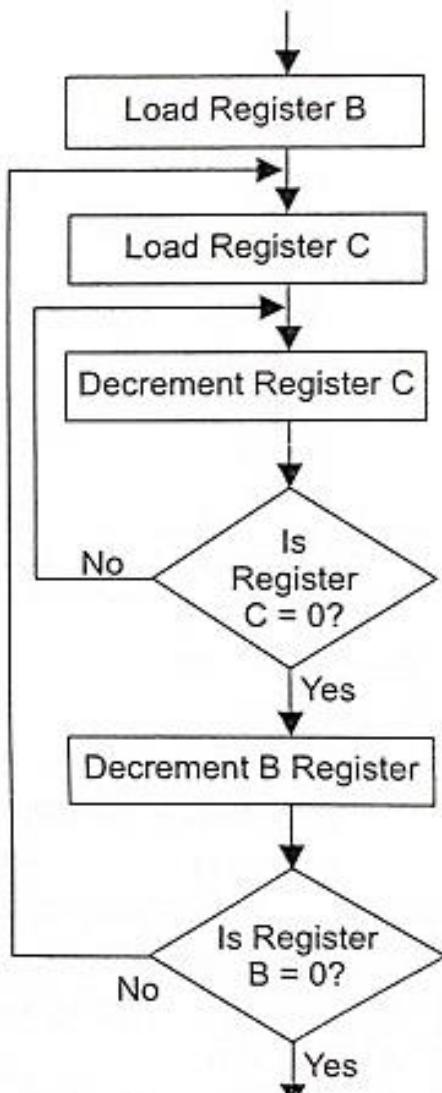

Fig. 4.11 Flowchart for time delay using two loops
- ❖ The time delay can also be generated by using two loops as depicted in Fig. 4.11.